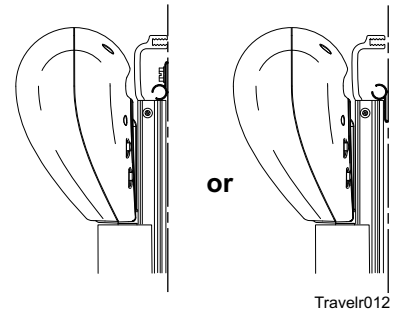

Figure 7. Vertical Arm Positioning.
5. Position the motorized arm on the coach: Align the center of the motorized arm with the centerline marked in step 2. Butt the top of the rear channel against the awning rail as shown in Figure 7.